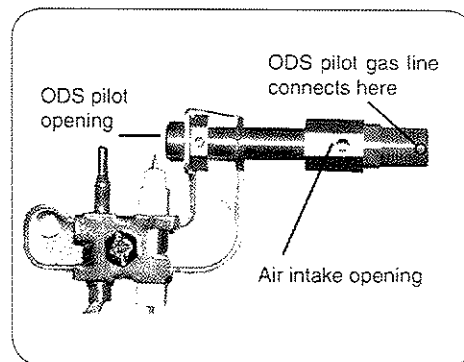

Fig. 24-1
1. Turn the unvented gas log set to the OFF position and allow it to cool. Inspect the ODS pilot area (see Fig. 24-1) for any visual contamination or debris (usually lint, hair, spider webs, or small insects). Lightly brush off all external surfaces while vacuuming loosened debris from the ODS pilot opening. **Be careful not to brush any foreign material into the ODS pilot opening.**
2. Clean out the air intake opening (see Fig. 24-1) by lightly brushing around the opening while vacuuming.
4. If the ODS pilot flame does not burn as indicated in the instructions, extinguish the ODS pilot by turning the valve to the full **OFF** position. Using a compressed air duster, insert the flexible nozzle through the air intake opening, ensuring that the nozzle is pointed toward the ODS pilot opening (see Fig. 24-1). Blow air through the intake opening to clear out any debris that may be in the system.
5. Relight the ODS pilot and inspect it to be sure it is burning as shown in the instructions. If not, extinguish the ODS pilot and **turn off the gas supply to the gas log set.** Using an adjustable or a 1/4" wrench, disconnect the ODS pilot gas line (see Fig. 24-1) from the valve.